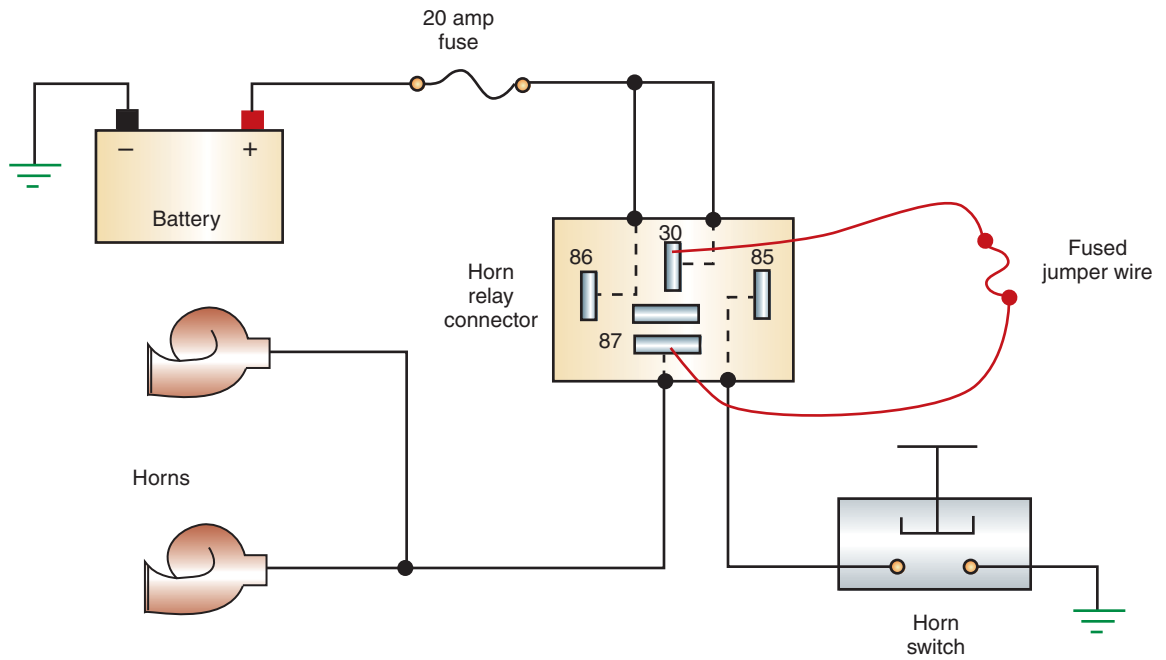

FIGURE 14-3 Using a fused jumper wire to test the horn circuit. If the horn sounds, the relay is faulty.
5. Use a fused jumper wire and jump terminals 30 and 87 (Figure 14-3). If the horns sound, replace the relay. If the horns do not sound, continue to test.